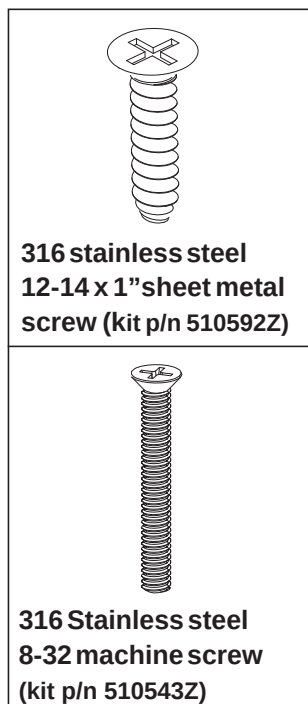

Figure 1
- Install a gasket under and on top of the vinyl liner. Align the gasket and face ring screw holes. Secure the face ring on the top gasket with the eight (8) 316 12-14 x 1" sheet metal self-tapping screws (provided), see Fig. 1. Using a No. 2 Philips head screwdriver, tighten each retaining screw to a **torque value of 10.00 (minimum) to 15.0 (maximum) in-lbs** to secure the face ring and gaskets on the sump. DO NOT OVER TIGHTEN THE SCREWS. DO NOT ASSEMBLE WITH POWER TOOLS.
⚠ WARNING ONLY USE THE 316 STAINLESS STEEL 8-32 MACHINE SCREWS (SEE FIG. 1) PROVIDED. SUBSTITUTE SCREWS SUCH AS MASONRY SCREWS, SHEET ROCK SCREWS OR OTHER TYPES OF SCREWS SHOULD NEVER BE USED, WILL CAUSE THE COVER TO COME LOOSE AND COULD RESULT IN LIMB OR BODY ENTRAPMENT, HAIR ENTANGLEMENT OR EVISCERATION/ DISEMBOWELMENT.
- Remove the eight (8) face ring screws securing the face ring. Discard the face ring and screws.
- Install the new face ring. Secure with the eight (8) sheet metal self-tapping screws (provided), see Fig. 1. Using a No. 2 Philips head screwdriver, tighten each retaining screw to a **torque value of 10.00 (minimum) to 15.0 (maximum) in-lbs** to secure the face ring. DO NOT OVER TIGHTEN THE SCREWS. DO NOT ASSEMBLE WITH POWER TOOLS.